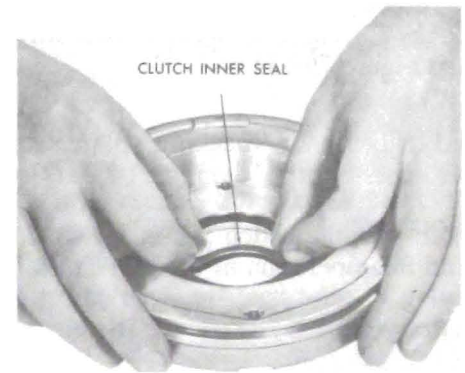

Figure 76-678
9. Remove inner seal from piston. See Figure 76-678.
1. Install a new inner clutch piston seal on piston with lip facing away from spring pockets. Make certain correct piston is used. See Figure 76-678.